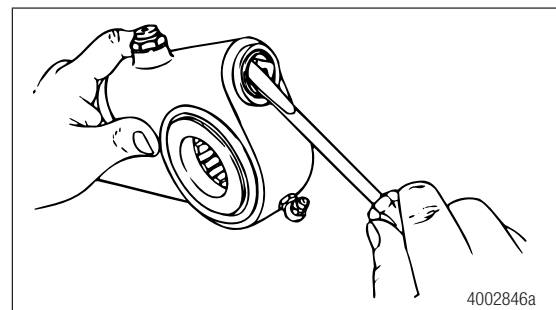

Figure 3.17
8. Use a small screwdriver to remove the grease seal from around the worm bore. Figure 3.17. Discard the seal. Install a new seal when you assemble the slack adjuster.